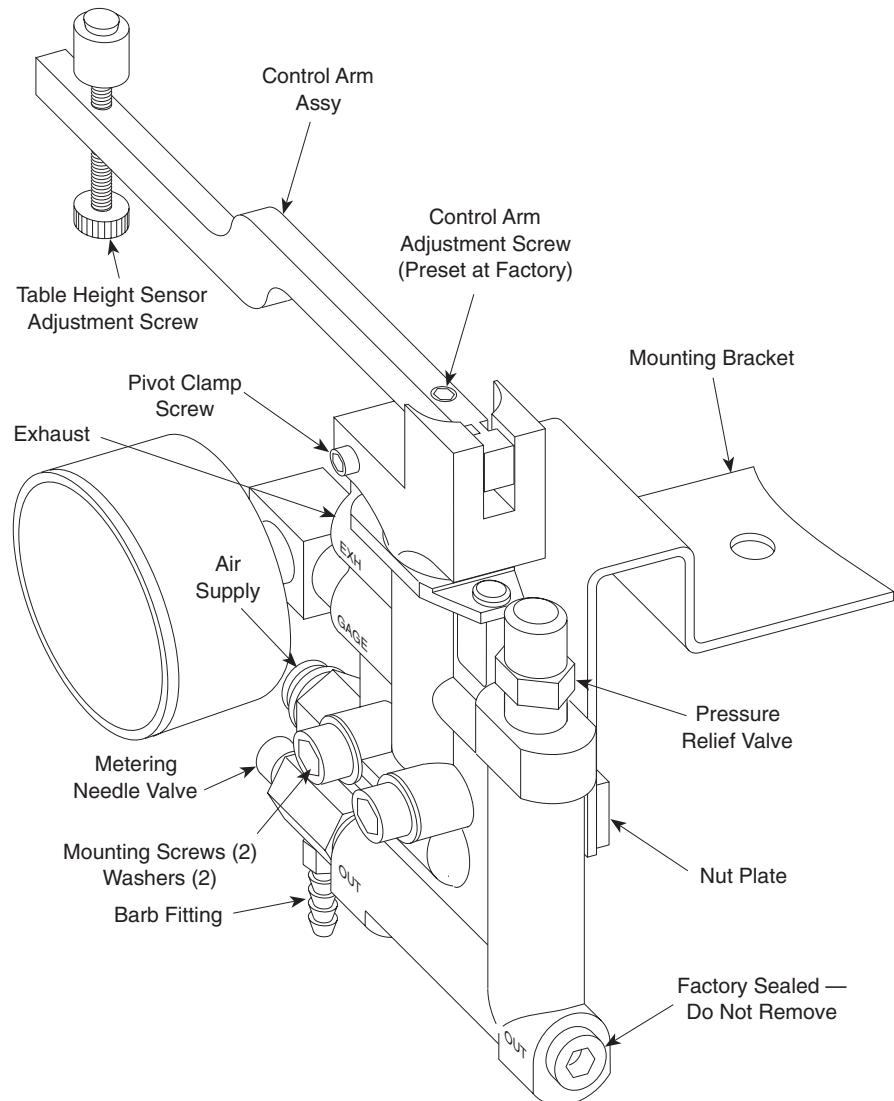
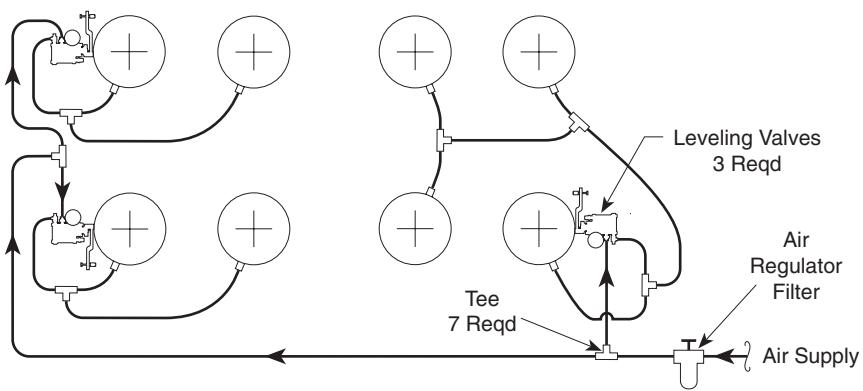
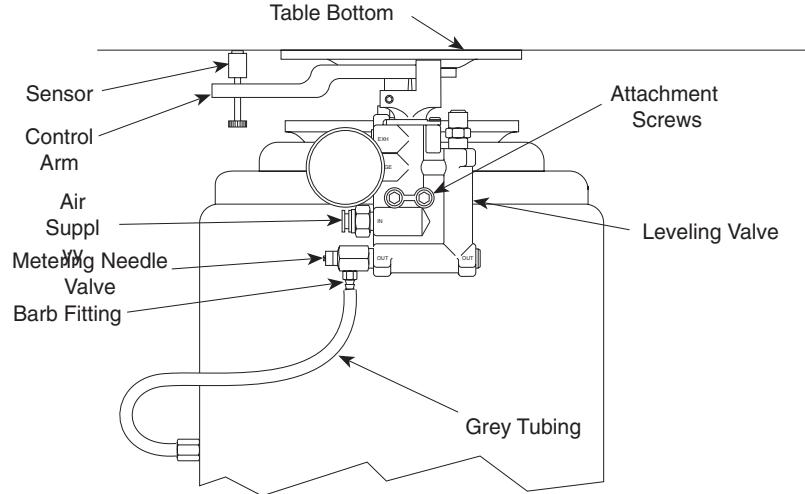
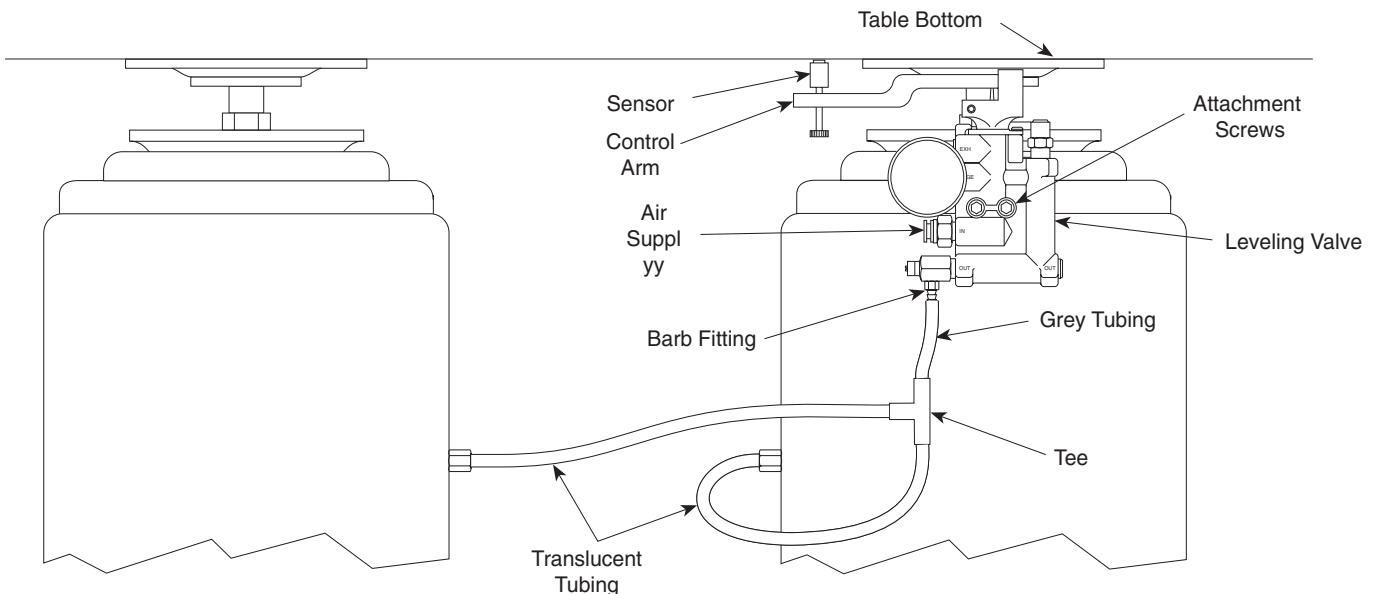

Figure 2.5 — IPV Leveling Valve
Figure 2.8 — Air Line Routing
Figure 2.9 — Detail of Valve Connections, Single Isolator
Figure 2.10 — Detail of Valve Connections, Two Isolators
The IPV leveling valve is shown in Figure 2.5. Three valves are used in all systems, regardless of the number of isolators, as only three points are required to determine a plane. The leveling valve locations are selected such that they form the largest triangle possible under the table. The larger the triangle, the more stable the system will be. When two or more isolators are controlled by the same valve, they act as a single large isolator supporting the table at the center of force of the several isolators. The floating height of the system is determined at the valve position. Therefore, ideally, the valves should be located at the center of force of the isolators they control. In practice, however, simply grouping the isolators and their control valves is sufficient. The groups of isolators and their valves act as three legs for the system. The center of gravity of the combined table and payload must be within the triangle formed by the centers of force of the isolator groups for the system to float. Figure 2.8 shows valve and isolator arrangements for rectangular tables. Complex table shapes require isolator and valve layouts designed specifically for each application.
- E. Gently tighten the clamping screw on the control arm pivot. (Figure 2.5)
- F. For systems with more than four isolators, use the same basic setup just described: Two valves control the height of the two end corners (A & A) while the third valve (B) controls the height of the opposite end. See Figure 2.8.
- A. Connect air lines to the isolators as shown in Figure 2.8. When cutting tubing, be sure the ends are round and cut squarely. This is best done with a single edge razor blade (scissors will deform the tubing, causing leaks). The connections are detailed in Figures 2.9 and 2.10.
2. Connect a length of grey tubing (supplied with the valves for use on the valve barb fitting) between the hose barb on the valve and the inlet connector on the isolator (Figure 2.9). If more than one isolator is supplied by a valve, use "Tee" connectors as required (Figure 2.10). Connect the grey tube from the valve to the "Tee" and use translucent tubing between the "Tee" and each isolator.
- B. Close the metering needle valve (Fig. 2.9) on each valve and then open it $\frac{1}{2}$ turn for each isolator that is connected to it. For example, if the valve controls two isolators, the needle valve is opened 1 full turn. [Please note: If you have a minimum load on your optical table top, open the metering valve about $\frac{1}{8}$ – $\frac{1}{4}$ of a turn.]
- B. Adjust the Table Height sensor screw of each isolator (Figure 2.5) as required to obtain this gap. When all isolators are adjusted, re-check the level of the table. NOTE: this step should require only minor adjustments. Do not move the small set screw near the pivot of the valve control arm.